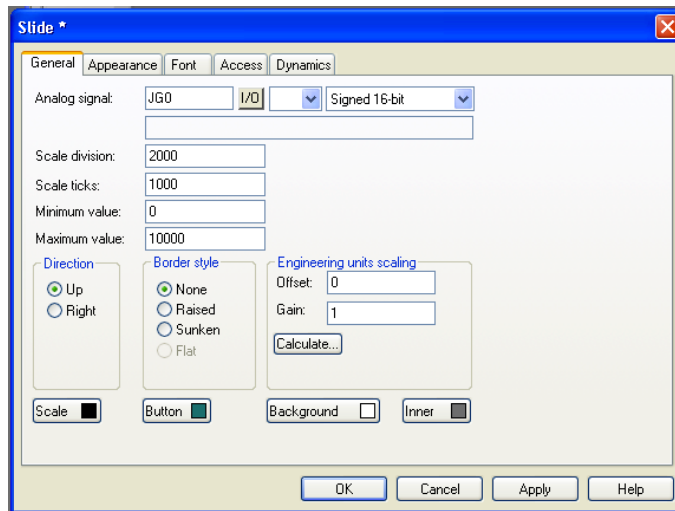

Figure 6: Correct settings for the Slide Object
- Now that the scale object is set to an equivalent command on the Galil; adjust the following to make the for the user by setting the “Scale division” to “2000,” “Scale Ticks” to “1000,” “Minimum value” to “0,” and lastly, “Maximum Value” to “10000.” Correct settings are shown in Figure 6.